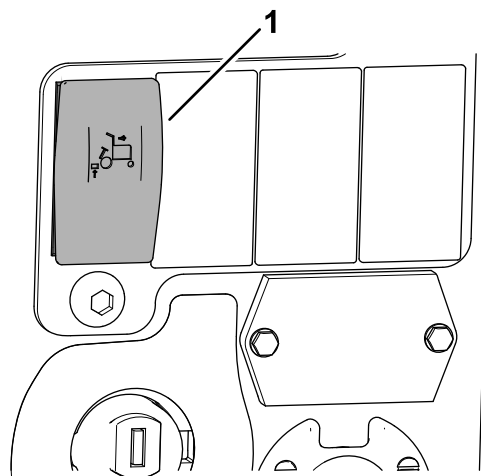

Figure 38
1. Press the auto-limited lift in reverse switch to the ON position (Figure 38).
4. To shut off auto-limited lift in reverse, press the auto-limited lift in reverse switch to the OFF position (Figure 38).